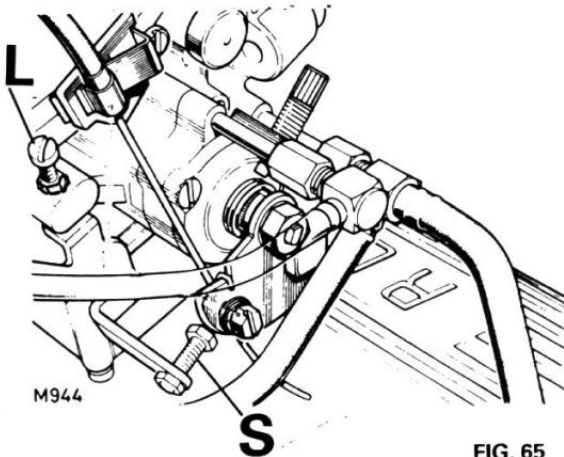

FIG. 65
9. Make sure the throttle butterflies are also fully closed, it may be necessary to release both idle screws "L" using special tool MS.86 and fast idle screw "S" as seen in Fig. 65 to allow full closure.